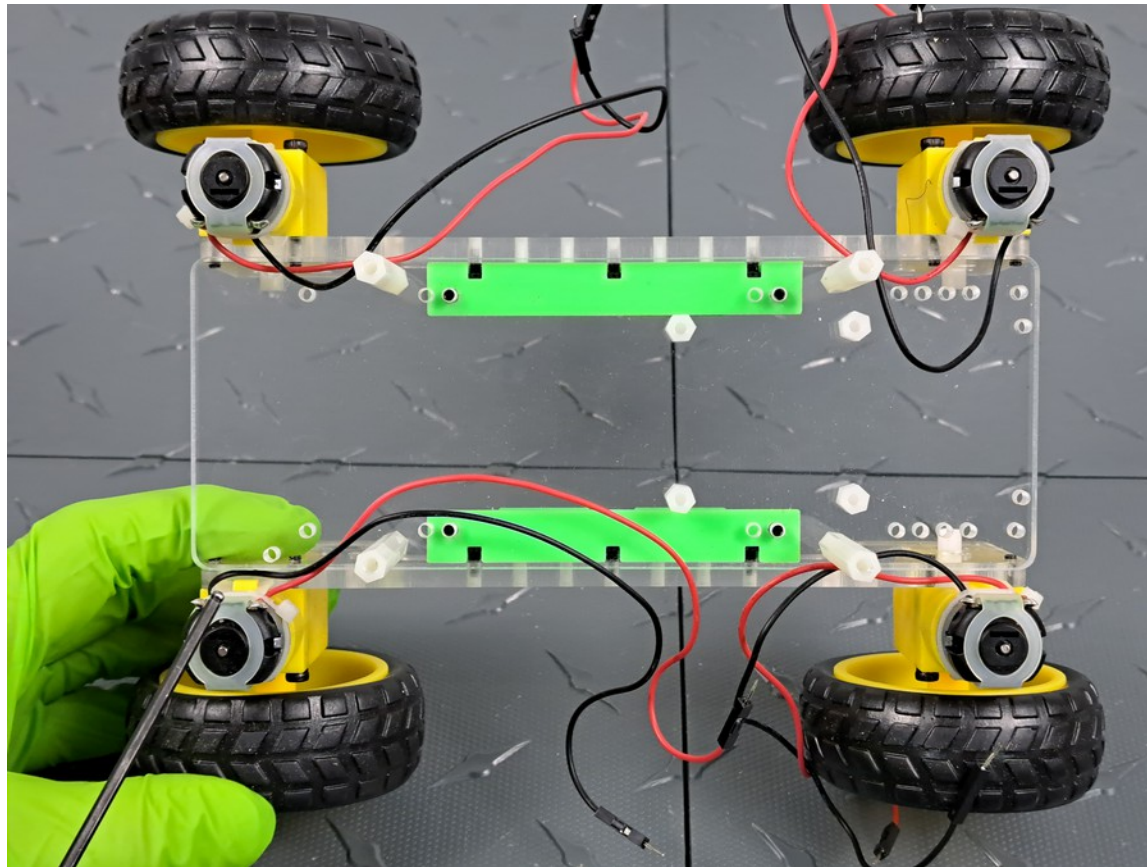

Figure 2 – Recommended arrangement of motors.
- 2. Shown in figure 2 above is the recommended arrangement of the motors. Take note of how motors are turned so the motor terminals are facing inward. This arrangement sets the motors up to have the correct movement direction when combined with the motor driver PCB connections and python code in later steps.**